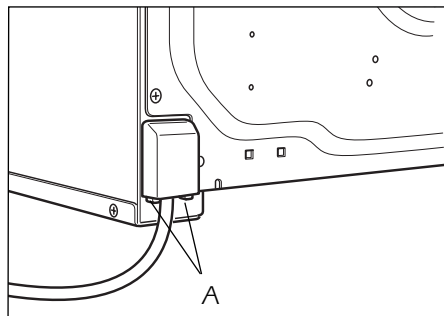

Figure 7
- Unhook the terminal board cover by inserting a screwdriver into the two hooks "A" (fig. 7).